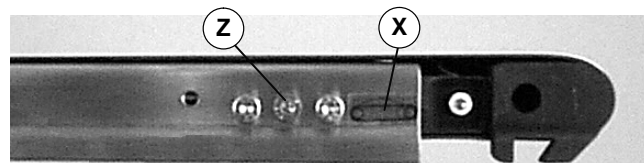

Figure 21
4. With pinion gear engaged, insert a 4 mm hex key wrench into lock screw (Z of Figure 21).
5. With pinion gear engaged, insert a 4 mm hex key wrench into lock screw (Z of Figure 21).